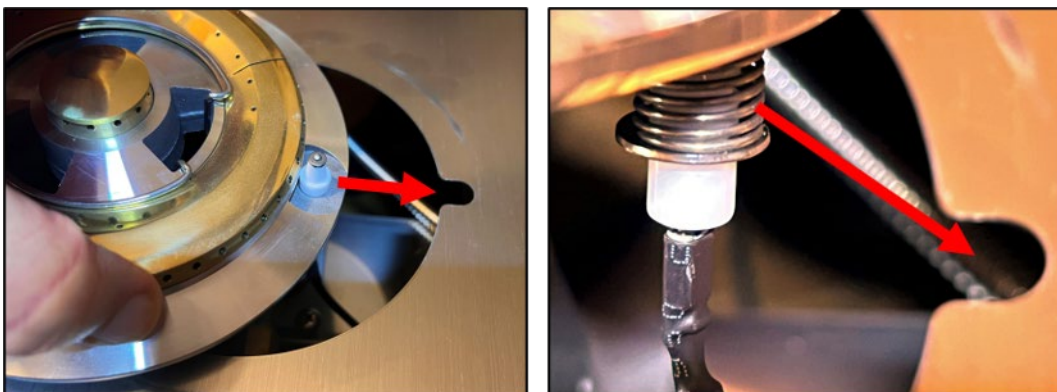

Figure 27 Replace Burner
- a. Insert with igniter plug toward the slot as shown in Figure 27 (left)
- b. Ensure the igniter post below the burner ring fits into the slot Figure 27 (right)